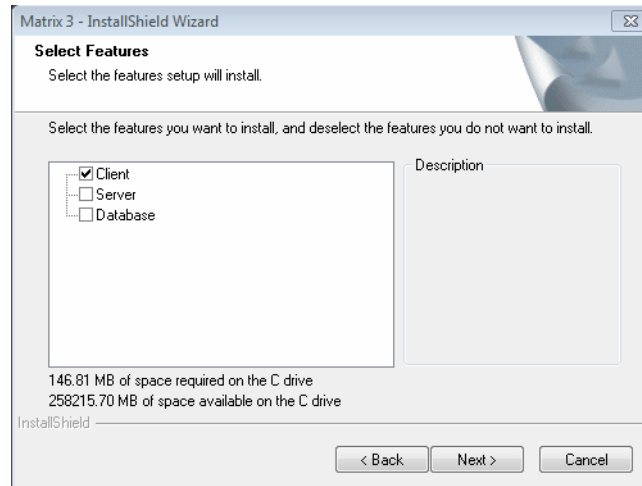

FIG. 18
7. On the Select Features screen shown in FIG. 18, you are prompted to select the features you want to install and deselect features you do not want to install. Click NEXT.